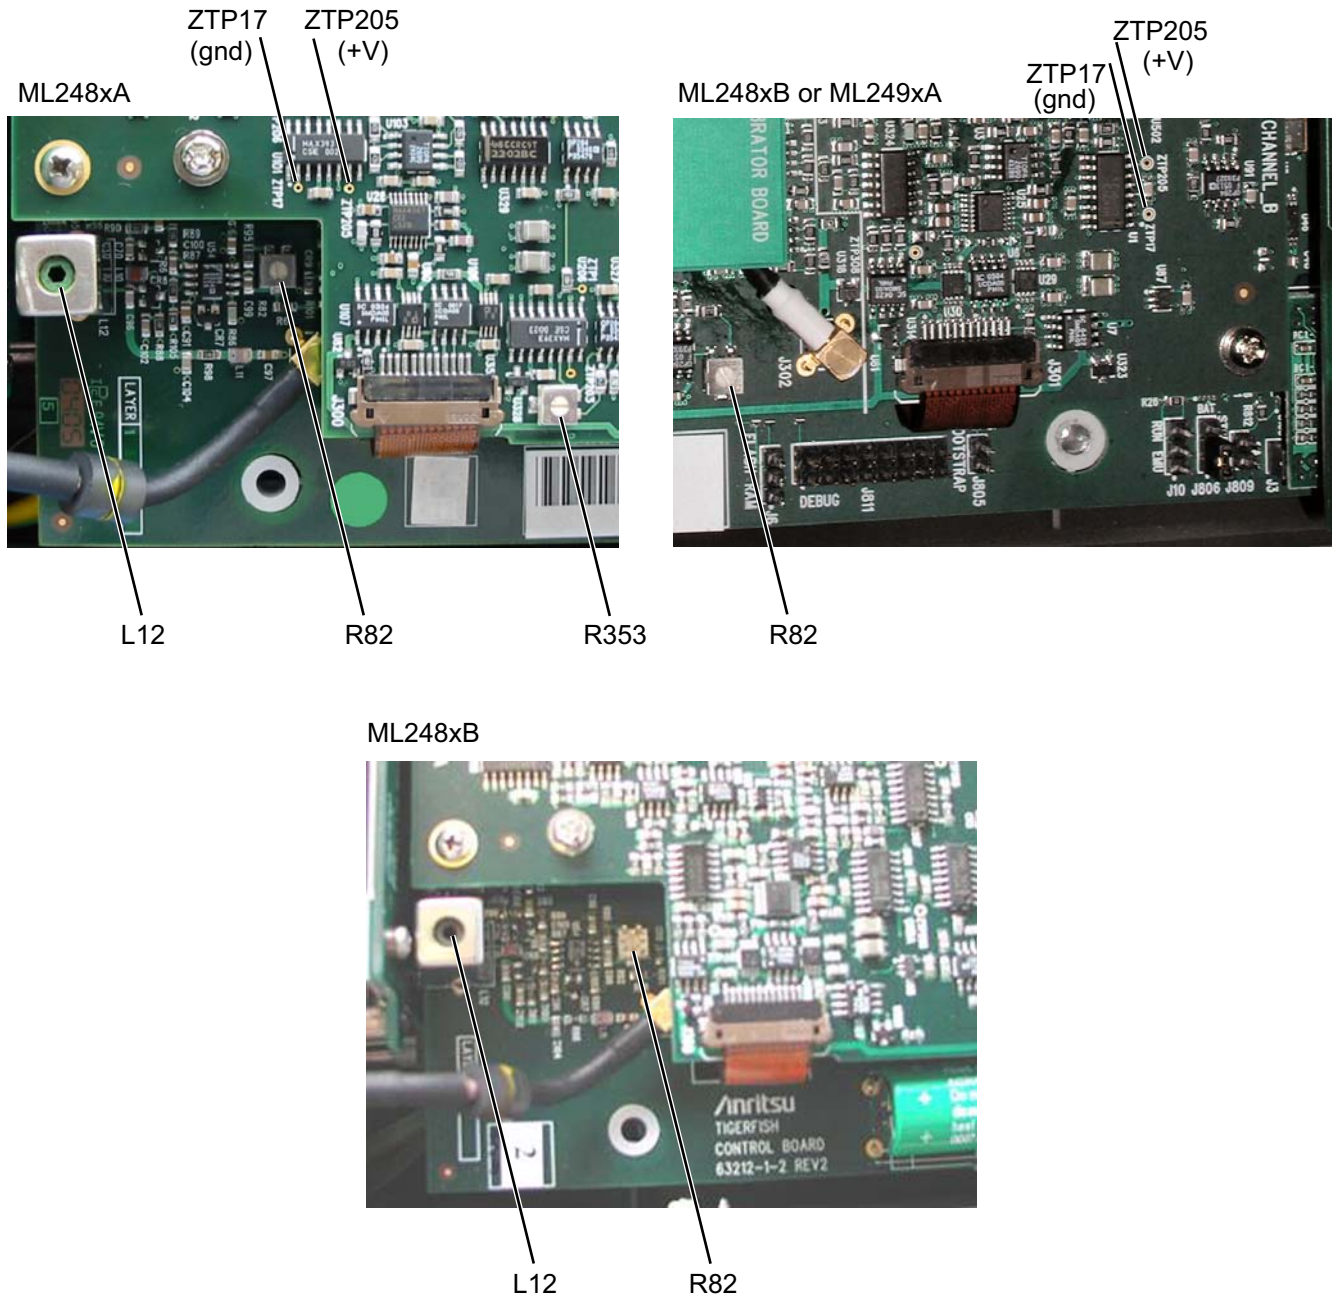

Figure 4-1. Calibration Test and Adjustment Points
3. Connect a DVM between ZTP17 (gnd) and ZTP205 (+V) on the Measurement PCB. See Figure 4-1 on page 4-3.
7. Connect a DVM between ZTP17 (gnd) and ZTP205 (+V) on the measurement PCB as shown in Figure 4-1.
3. Adjust inductor core L12 with a non-metal adjustment tool for a frequency reading of 50 MHz \pm 500 kHz. See Figure 4-1 for inductor location.